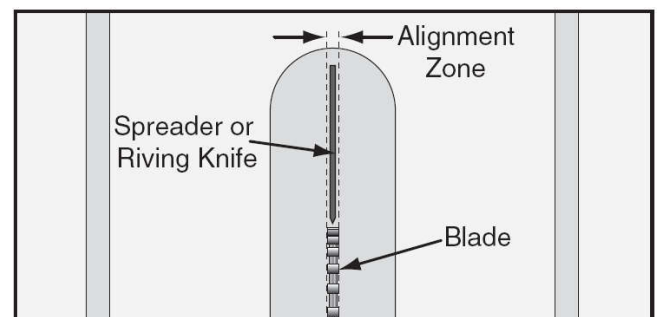

Fig.17: alignment zone
- D. place a straightedge against the blade and the spreader. When properly aligned, the spreader/riving knife will be in the "alignment zone," shown in Fig.17 , and will be parallel with the blade.